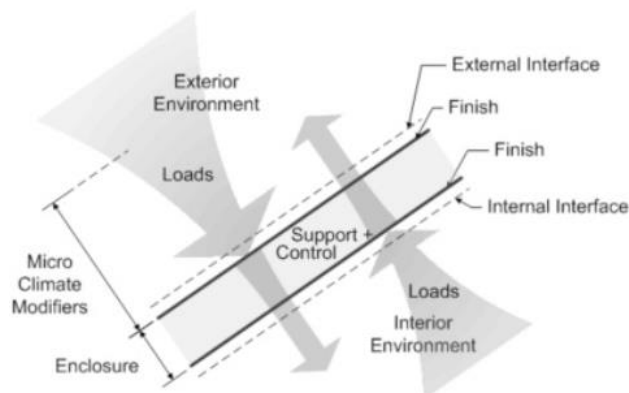

Fig. 1 Building enclosure and its functions (1)
(1) http://buildingscience.com/documents/digests/bsd-018-the-building-enclosure_revised
(2) http://buildingscience.com/documents/digests/bsd-018-the-building-enclosure_revised. Please check fig. 1, 2 and 3